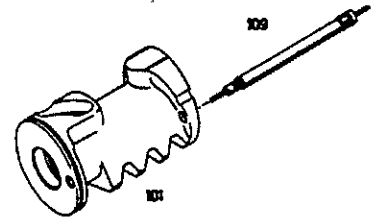

Fig.28
6.2 Versions with screwed valve insert (109) - steering limiter valve
Screw valve insert (109) into piston as far as possible with tool [2] (*Fig.28*) (tightening torque: 15 ± 1 Nm).